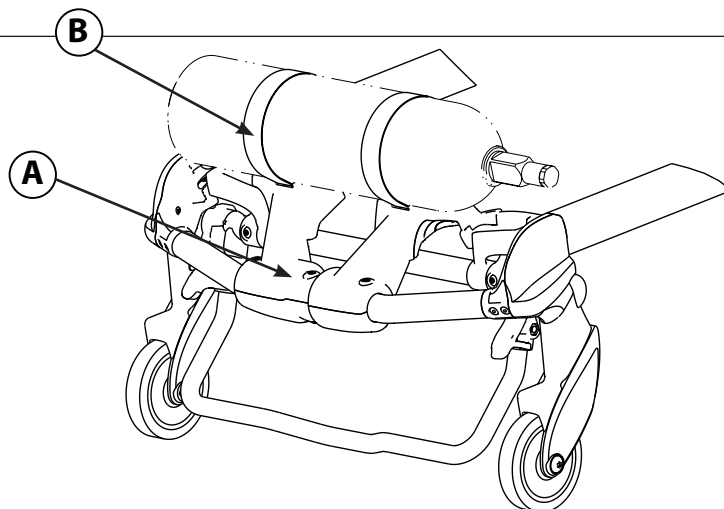

Figure 50 - Retractable Head Section Oxygen Bottle Holder
1. Center the oxygen bottle on the cradled surface of item (A) as shown in Figure 50.
2. Tighten both straps (B) around the oxygen bottle.